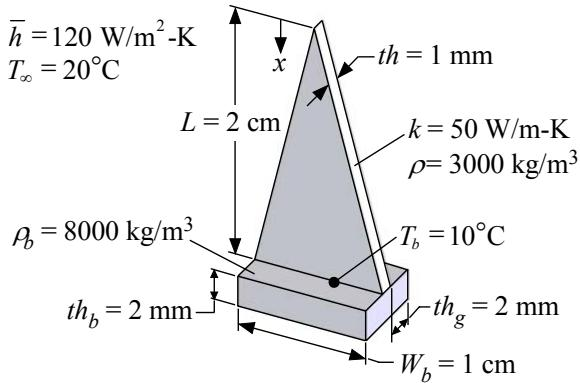

Figure P1.8-5: Fin on an evaporator.
1.8-5 (1-18 in text) Figure P1.8-5 illustrates a fin that is to be used in the evaporator of a space conditioning system for a space-craft.